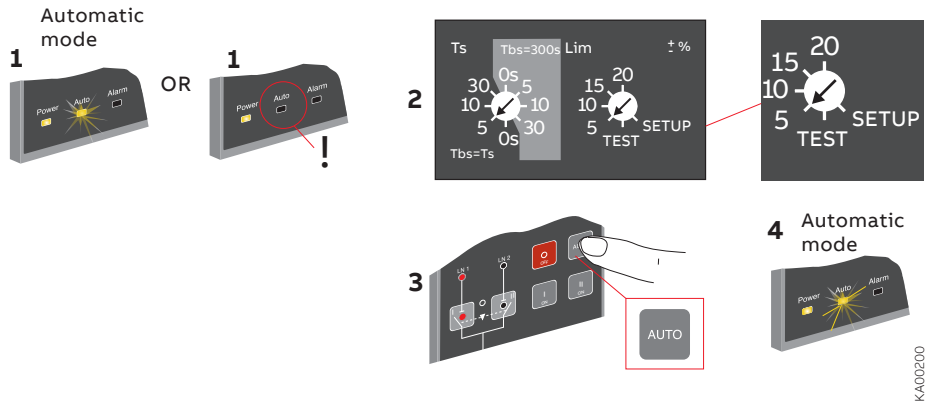

Figure 6.11 Selecting the automatic control unit OMD100 to Automatic Mode
5. Set device to AUTO mode according to the Figure 6.11.